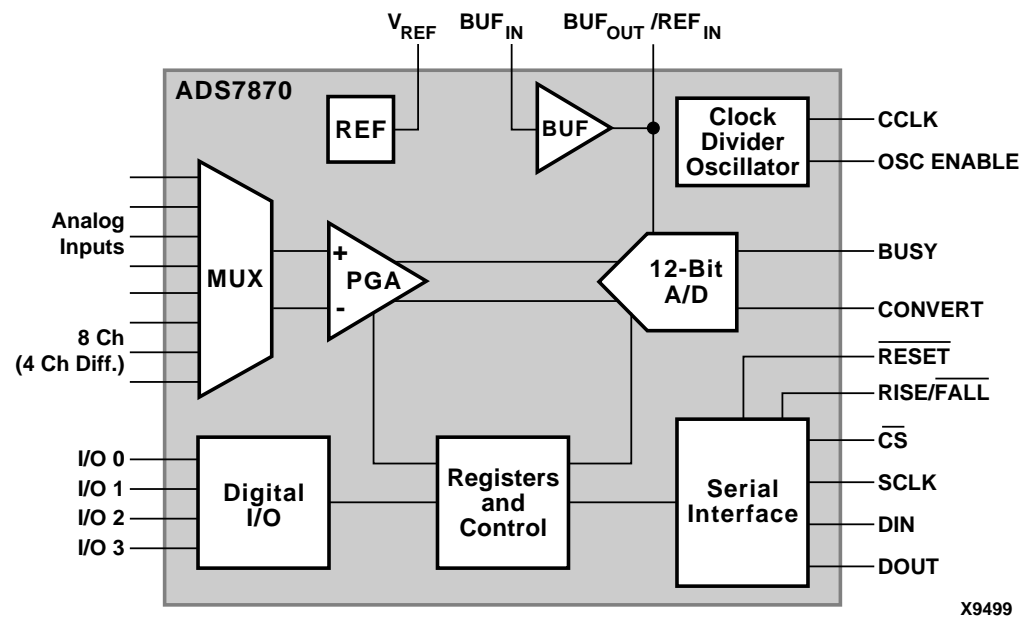

Figure 2: ADS7870 Block Diagram
**Figure 2** shows a detailed block diagram of the ADS7870.
Each functional block shown in Figure 2 in the ADS7870 is described in detail in Table 1.
12-bit A/D	<p>The serial interface configures and controls operation of the 12-bit A/D Converter. The output of the converter is 2's complement format. This result is stored in registers 0 and 1. These registers are read through the serial interface.</p> <p>For a plot of Output Codes vs. Input Voltage, refer to Figure 2 on page 10 of the Texas Instruments ADS7870 Data Sheet.</p>